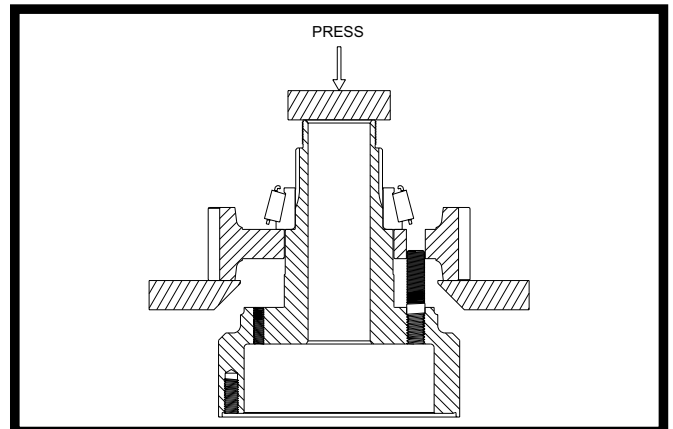

Fig 32
6. To remove the front bearing cone assembly, remove the (8) locknuts securing the gear to the front differential case half. Place this assembly in a press such that the gear is supported. See Figure 32. Press the bearing cone assembly and the gear from the case.